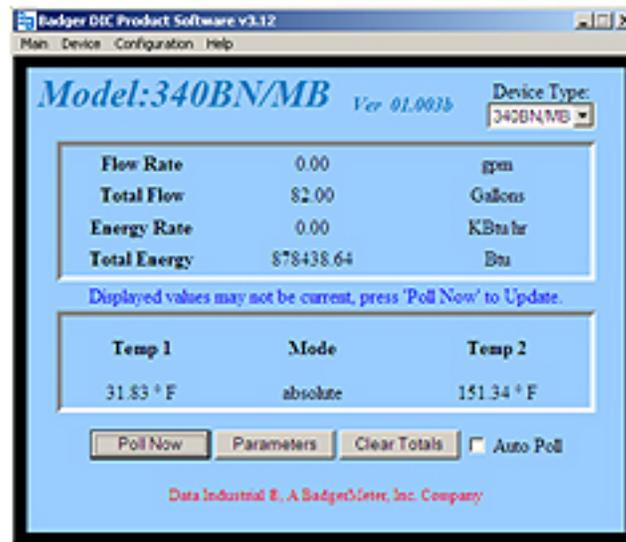

Figure 20: Screen change
- b. Select this new port created by the adapter and the screen should change as shown in Figure 20. The dashes (“---”) are replaced with values, confirming normal communications.